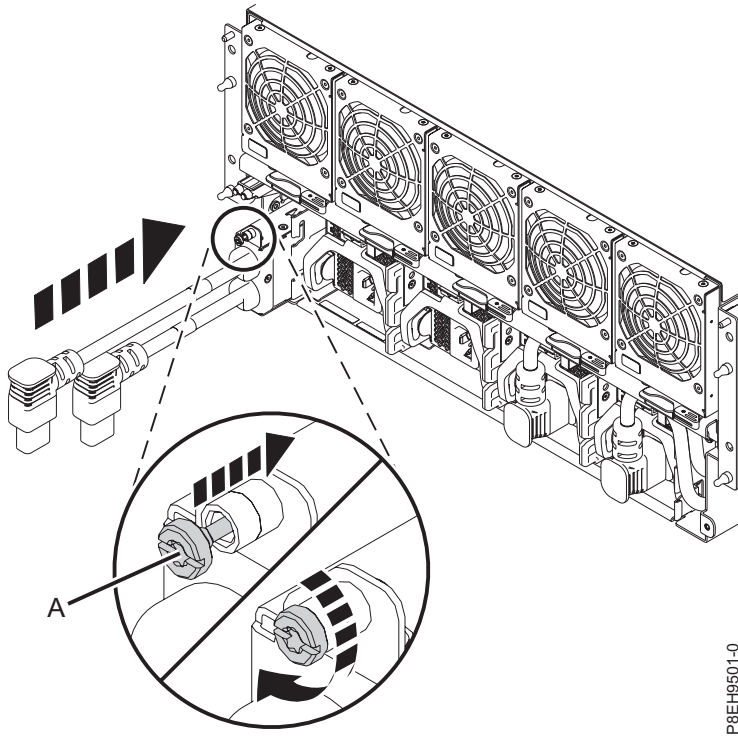

Figure 9. Replacing the line cord conduit in the front of the system
- b. Slide the line cord conduit into the front of the system. Tighten the screw (A) to secure the line cord conduit. See Figure 9 on page 8.